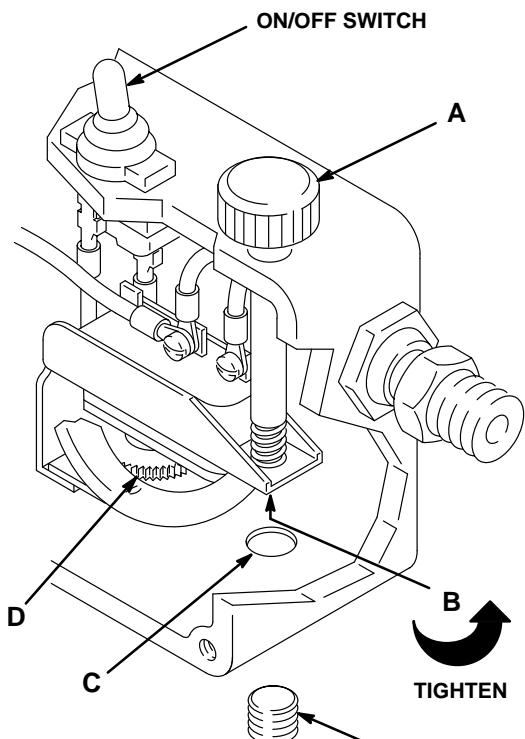

Fig 18
NOTE: Refer to Fig 18 for the remainder of this procedure.
3. Remove the plug (311). See Fig 18.
4. Open the needle valve slightly. Turn the pressure adjusting knob (A) to the minimum setting.